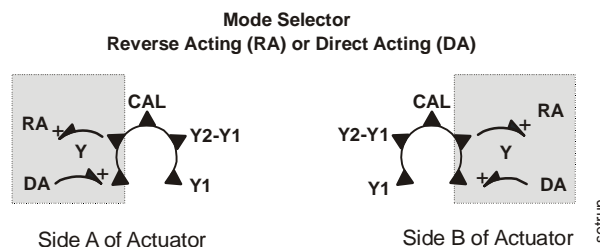

Figure 13: Mode Selector (highlighted)
The M9220-HGx-3 Proportional Electric Spring Return Actuators are factory set for Direct Acting (DA) operation. In DA mode, applying an increasing input signal to the control input drives the actuator away from the spring return position. Reverse Acting (RA) operation is also available. In RA mode, applying an increasing input signal to the control input drives the actuator toward the spring return position. Figure 13 and Figure 12 indicate how the drive direction for the actuator depends on the spring return direction and the position of the mode selection switch.